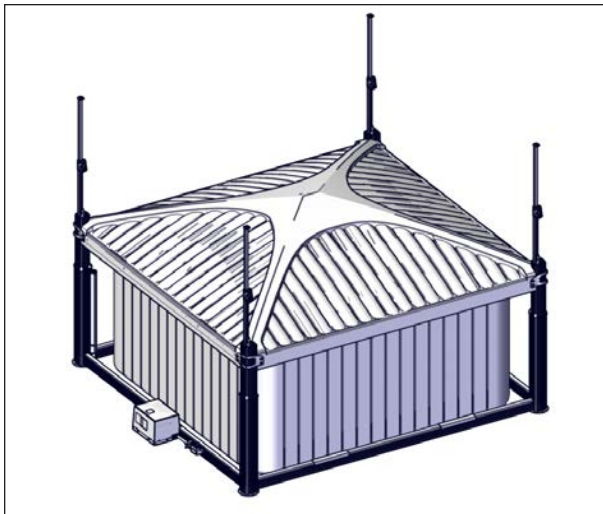

FIGURE 92: JACKS RAISING
7. Raise the jacks until they reach the maximum height see Figure 92.